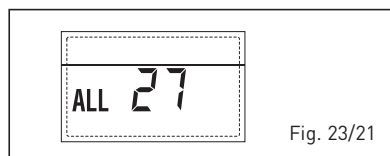

Fig. 23/21
**- ANOMALIA COERÊNCIA ENTRADA (S3) SOMENTE POR SISTEMA 7 "ALL 28" (fig. 23/22)**